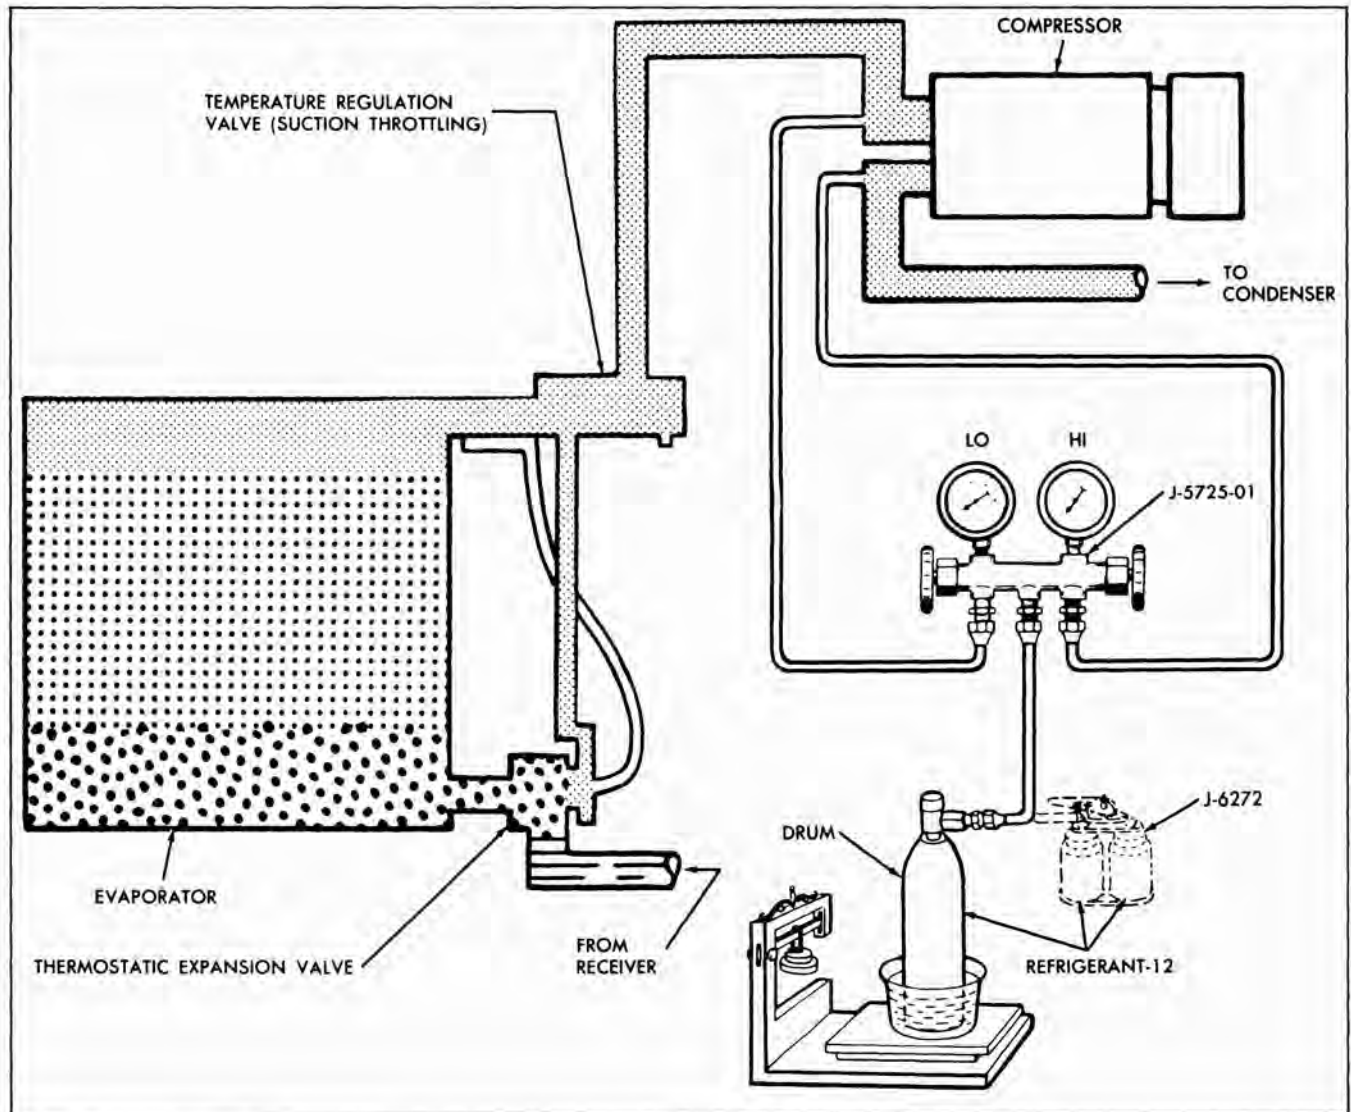

Fig. 6-33 Schematic Showing Connections and Tools for Charging Refrigeration System
**NOTE:** It may be necessary to use reducer J-5462-4 with sealing washer J-5462-3 and fitting J-5462-9 to attach flexible line to refrigerant drum. (See Fig. 6-33).
3. Place refrigerant drum (in pail of water) on scales (bathroom or commercial, preferably commercial) as shown in Fig. 6-33.